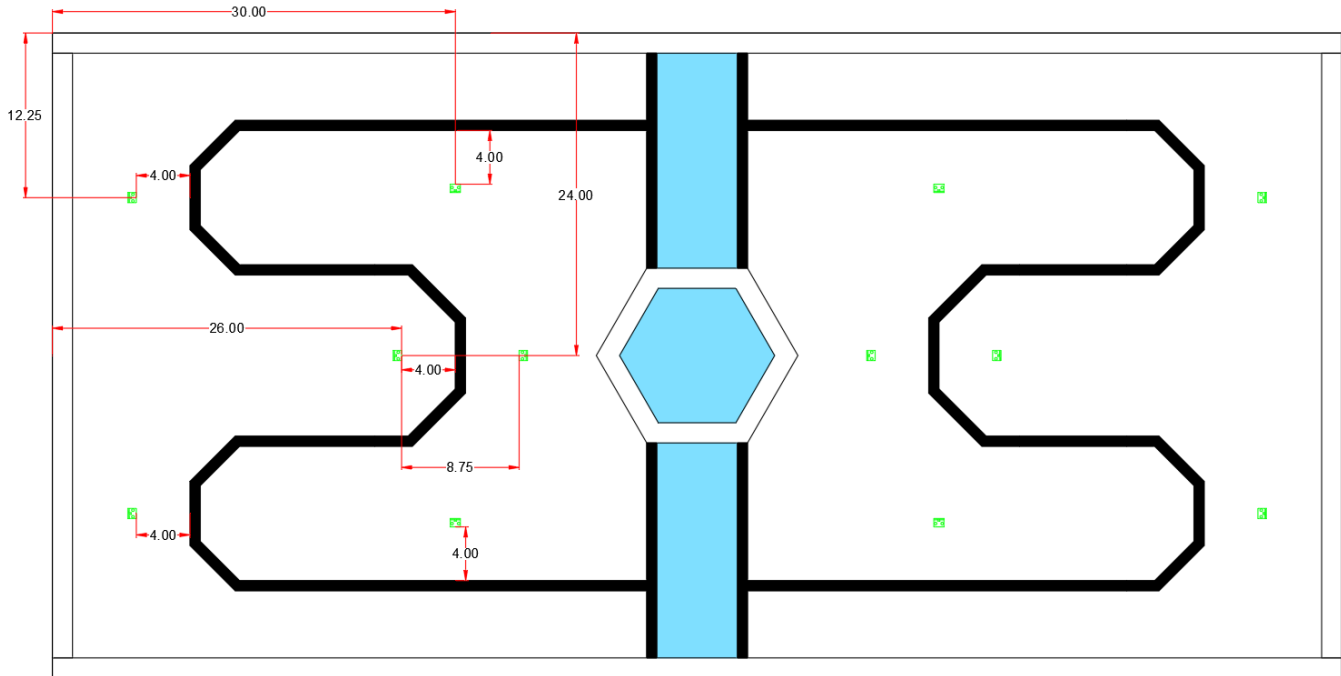

Figure 4. Twelve Locations of 3D-Printed (popsicle stick) Tree Bases
3. Mark the center location of each of 12 tree stumps, as shown in Figure 4. The tree base positions are symmetrical along both long and short sides of the play field.
12. Attach the tree bases as shown in Figure 4. Use #5 screws, item 8. These tree base (or 'stump') locations are symmetrical in the x-axis (long side) and y-axis (short side) of the play field.